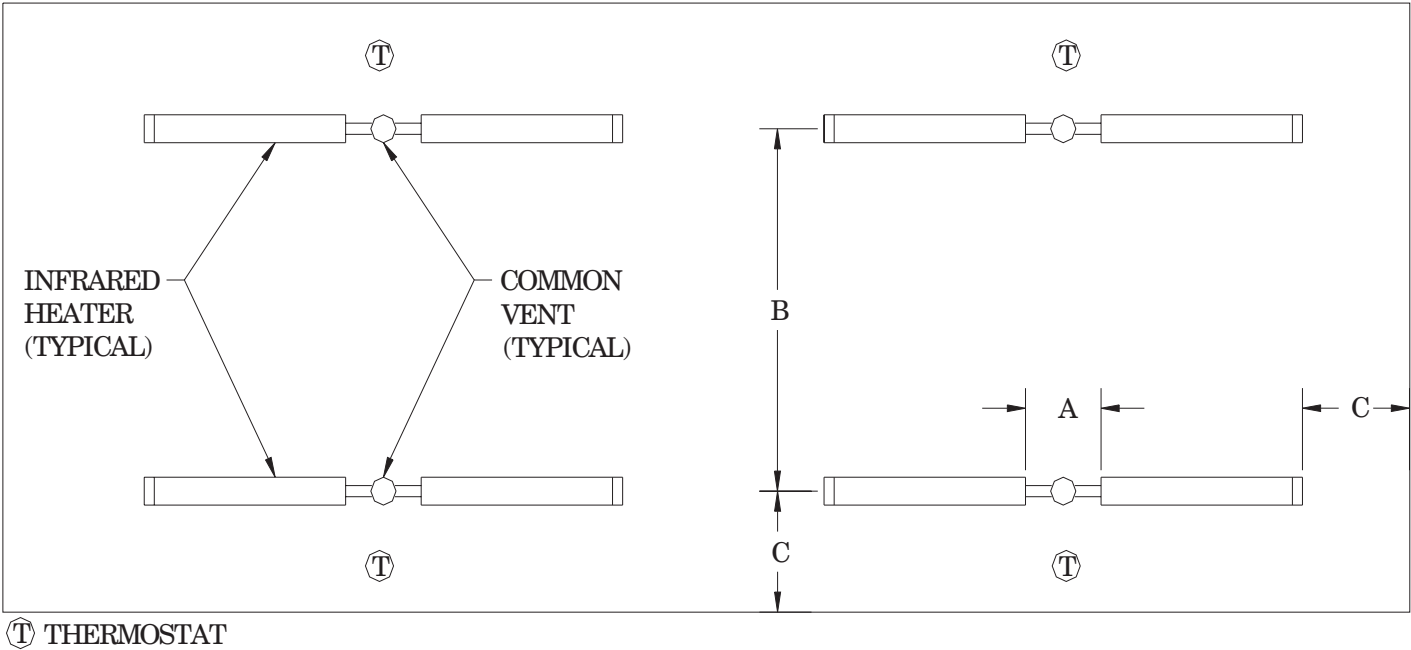

Figure 2.1.1
Perimeter mounting of these infra-red heaters provides for the most efficient installation. In figure 2.1.1, the heaters are mounted at the perimeter of the space to be heated. Refer to the Heater Installation Chart for the recommended distances on
- * Do not combine the exhaust vents of two heaters into a straight-through tee. A Part Number BR-YA, BR-YG, or staggered-tee arrangement must be used. Heaters sharing the same vent must share the same thermostat. Common vents must have 6 in./15.2cm Diameter (see Figure 2.1.1).